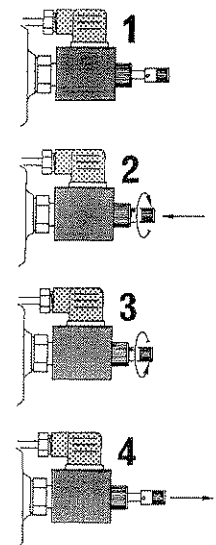

fig. 8b
Only in these conditions it is permitted to remove the lead seals which protects the device. Push the button and turn it into the clockwise sense (fig. 8b pos. 1-2); the button stays in stable and closed position.
(!) **When the electric power is reestablished, remember to put the button in its original position, turning it into the anti-clockwise sense.** (fig. 8b pos. 3-4)